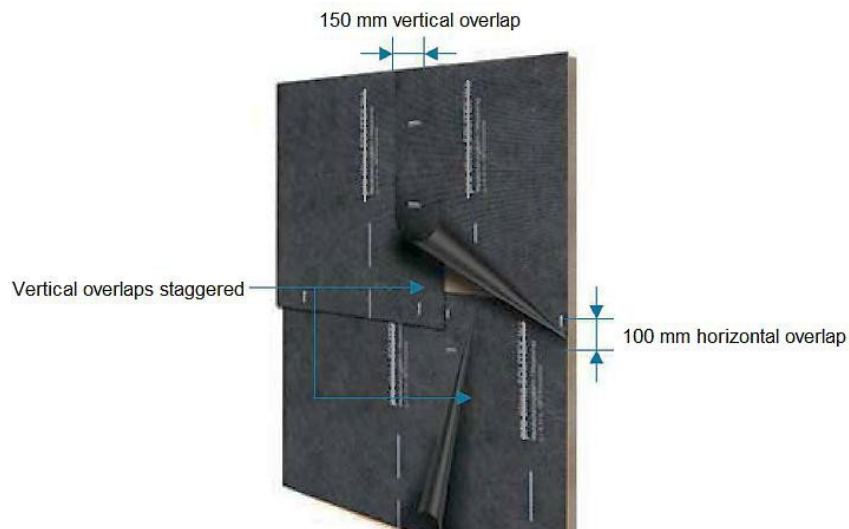

Figure 3 - Effisus Breather FR-B ST Membrane – Overlapping Joints.
- Vertical joints should overlap by 150mm minimum and be staggered or offset wherever possible(see Figure 3).